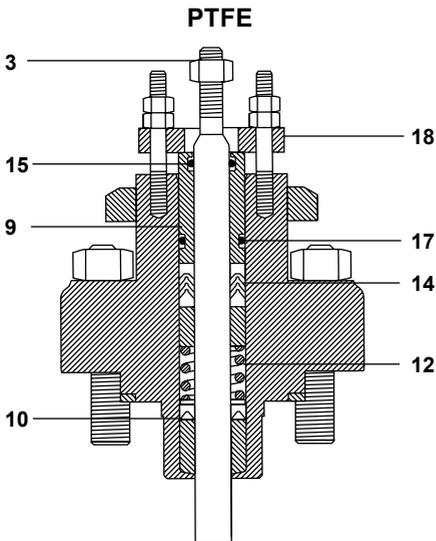

Fig. 7
- Remove the lock-nut (3), stuffing box nuts, gland flange and gland follower (18), 'O' rings (15 and 17) and replace with new items. The use of silicone grease on the 'O' rings is recommended.
- Clean the gland cavity and fit new gland components in the order shown in Figure 7. **Note** that the lower bearing must be fitted with the radiused edge downwards. When fitting the chevron seals they should be inserted with correct orientation, one at a time to ease the assembly process - See the adjacent illustration: →